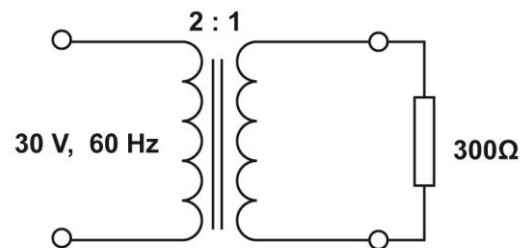

Fig. 2.1-18
3. Determine the following quantities in Fig. 2.1-18: